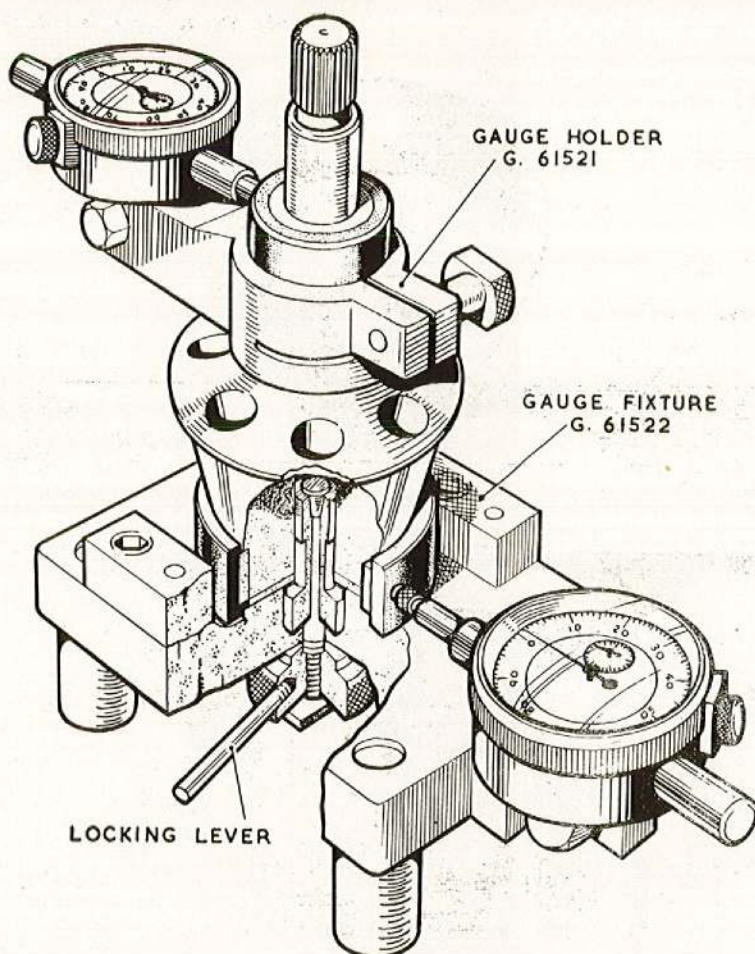

Fig. 18. Checking the rotor carbon bearing clearances
68. Check the diametral clearance between the bearings and their corresponding journals on the rotor by using the gauge G.61522 for the large bearing and the gauge G.61521 for the small bearing as shown in fig. 18. The rotor and large carbon bearing is placed first on the gauge G.61522 and secured by the locking lever which expands